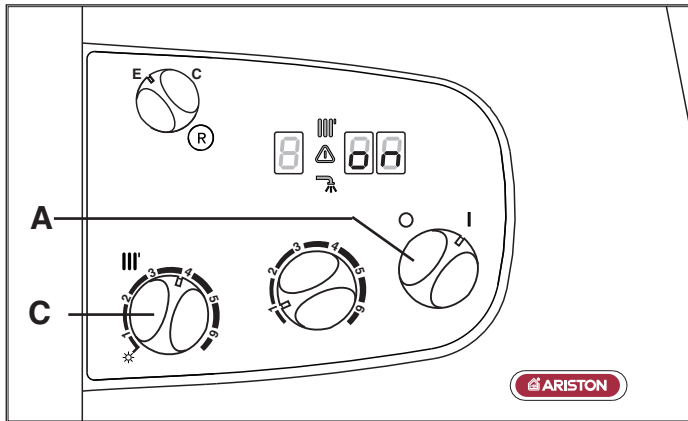

FIG. 2.27
- Supply power to the boiler by turning the On/Off knob "A" (see Fig. 2.27) - "on" will appear on the display. Turn the knob "C" to maximum and switch the time clock to constant and turn up the room stat where fitted.